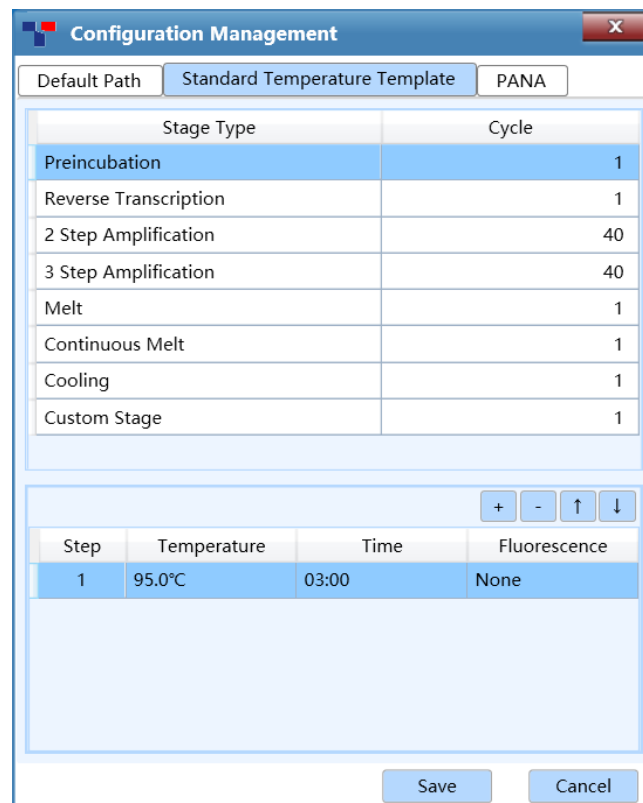

Figure D-3.5b Configuration Management interface - Standard Temperature Template tab
- ▶ ***Standard Temperature Template*** tab: 7 predefined standard temperature templates are displayed in this tab, as shown in figure D-3.5b. These templates are provided by the application software for temperature program stage settings.